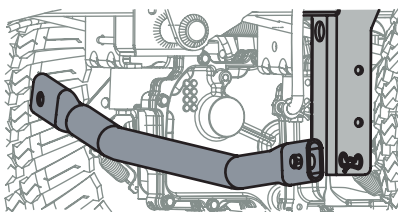

Figure 51
- b. Remove the bow-tie cotter pin on the left side of the bar, connecting the bar with the bracket on the frame. See Figure 51.